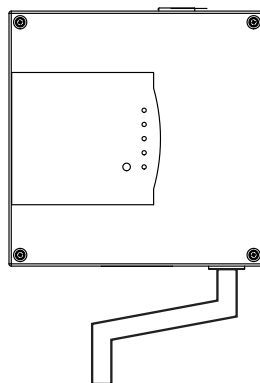

Figure 5-1: A possible exhaust pipe arrangement to maintain an IP54 rating
1. The exhaust from the detector should be arranged to avoid the ingress of dust and water. Extraneous dust is prevented from entering the enclosure due to the natural airflow that is exhausted from the detector. However, high pressure water jets could enter the unit if the exhaust port is not protected by a pipe with a series of suitable bends. A possible arrangement is shown in Figure 5-1.
2. The arrangement of the sampling pipes must also be considered with regard to ingress of dust and water. The pipe runs should be arranged so that water entering the pipe network does not run towards the detector. For example, for the exhaust pipe, use a bend arrangement as in Figure 5-1 below, or a water trap. However, with regard to dust ingress the specific requirements of the application must be thoroughly investigated particularly with regard to the location of sampling points.